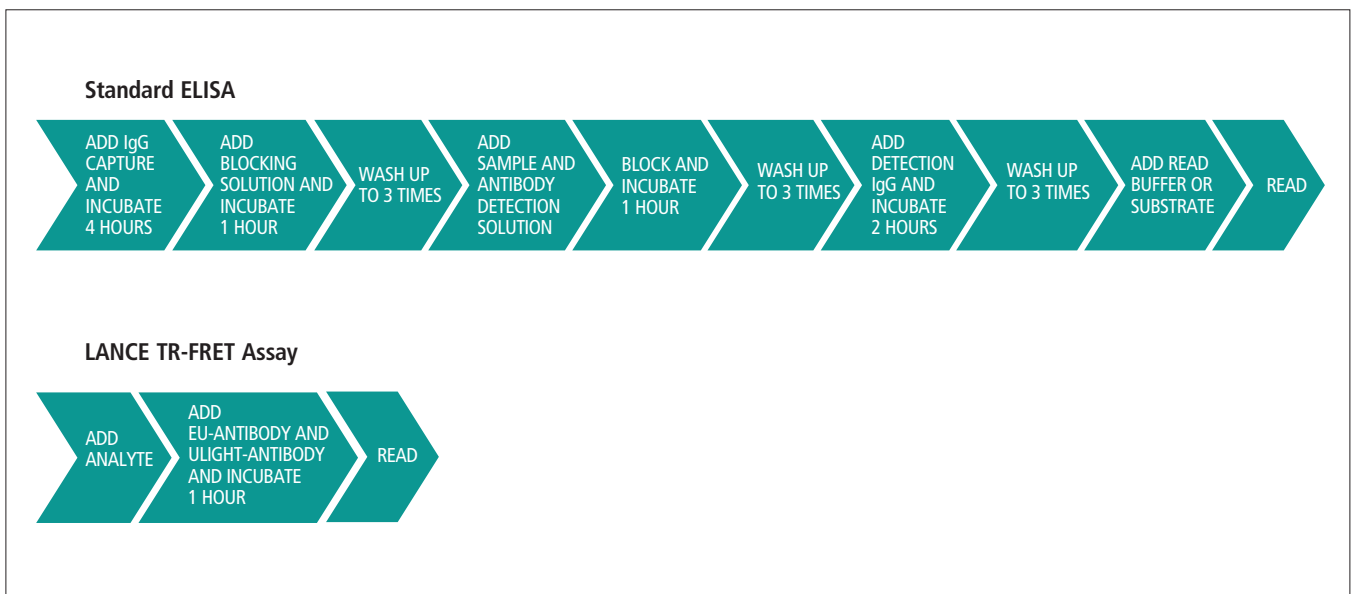

Figure 2. A workflow comparison between LANCE TR-FRET and standard immunoassays. LANCE TR-FRET assays can be performed in three simple steps.
- Most importantly, LANCE is a homogeneous assay which means that the reduced number of assay steps compared with standard immunoassays offers maximum precision and improved CVs while speeding up the process and simplifying the workflow (Figure 2).